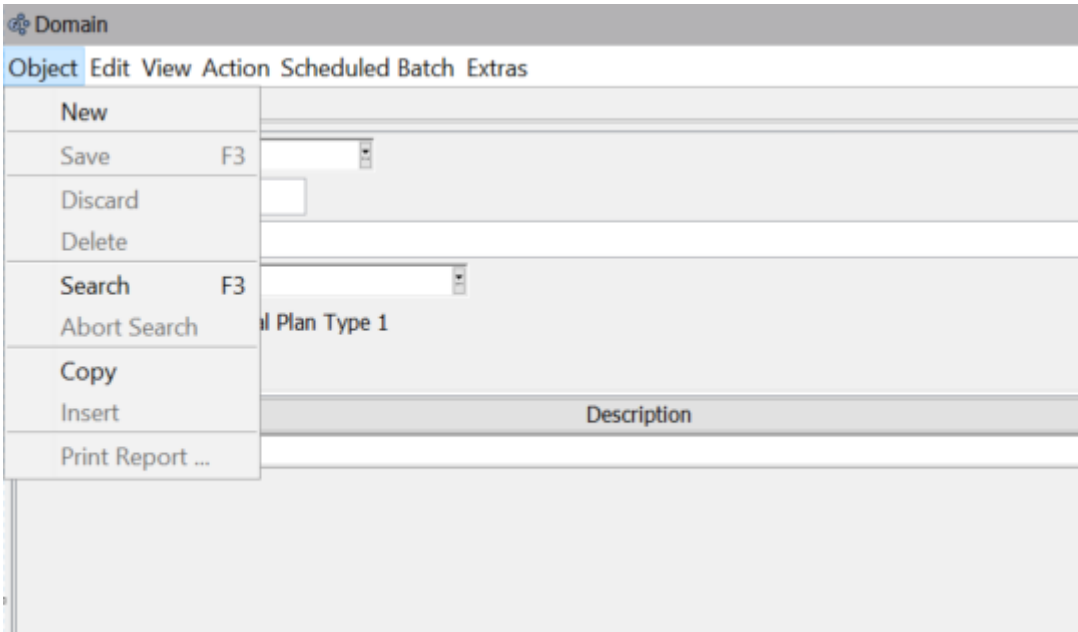

Figure 62: Object Menu in Domain Screen
- 3) In the System screen, enter appropriate values in the generic data fields (see Figure 62):
Note: The Domain screen may be opened by clicking on the underlined label (see Figure 62), or by right-clicking inside the Domain field and then selecting 'Related Object' in the drop-down list.